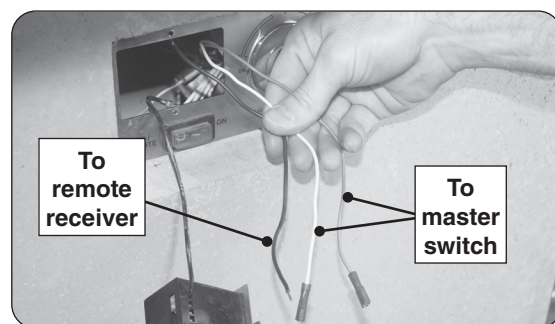
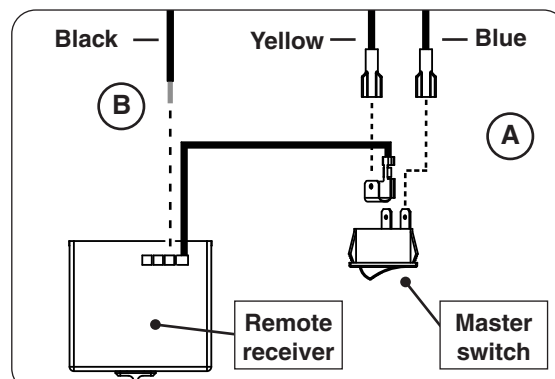

Fig. 33-2 Locate 3 exposed wires
Fig. 33-3 Connect receiver & switch wires
7. Locate the 3 exposed wires and connect to the remote receiver and master switch (see Fig. 33-2 and Fig. 33-3).